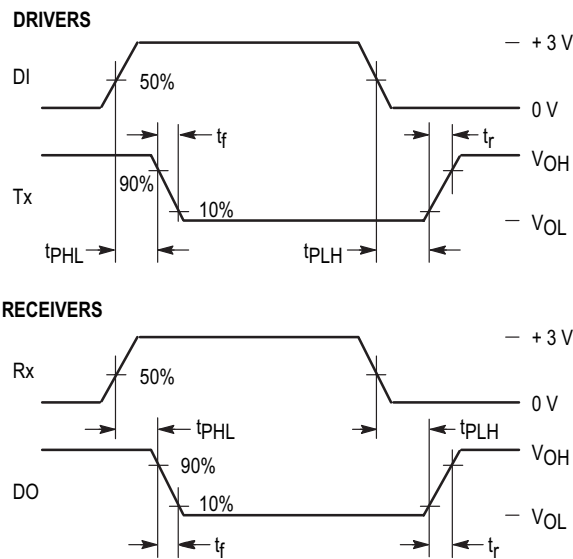

Figure 2. Switching Characteristics
**SWITCHING CHARACTERISTICS** ( $V_{CC} = +5$  V,  $\pm 10\%$ ,  $V_{DD} = +12$  V,  $V_{SS} = -12$  V,  $T_A = -40$  to  $+85$  C; See Figures 2 and 3)